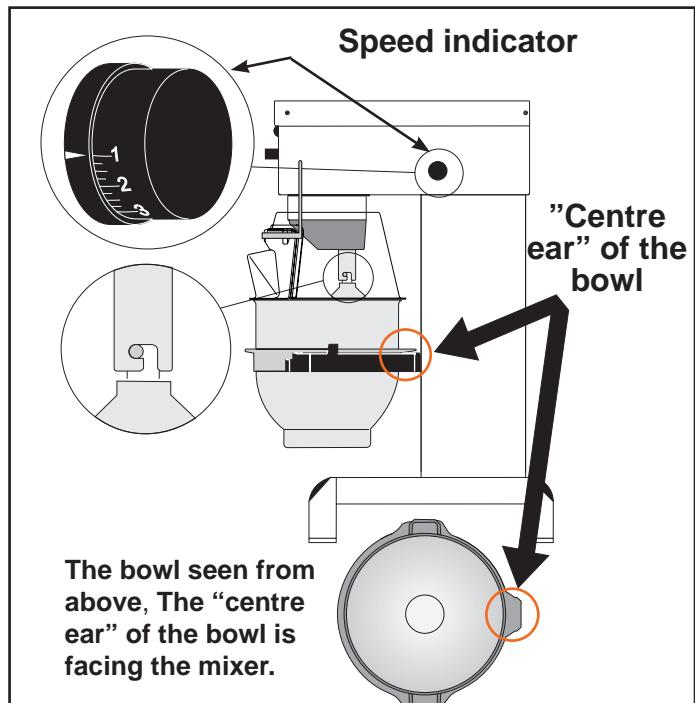

Fig 2.
- B **Note:** the bowl arms must be in the lowest position. Place the bowl in the bowl arms. Check that the bowl is pushed right back into the arms and that the "centre ear" of the bowl arms are turning in towards the mixer (fig. 2). Place the mixer tool in the bayonet shaft. The tap of the tool must be turned right into the bayonet hole. Close the safety guard.
- F Press  and  until you have reached the desired speed. You can read the speed on the indicator on the side of the mixer (fig. 2). See also "Recommended max. speeds" (fig. 1).